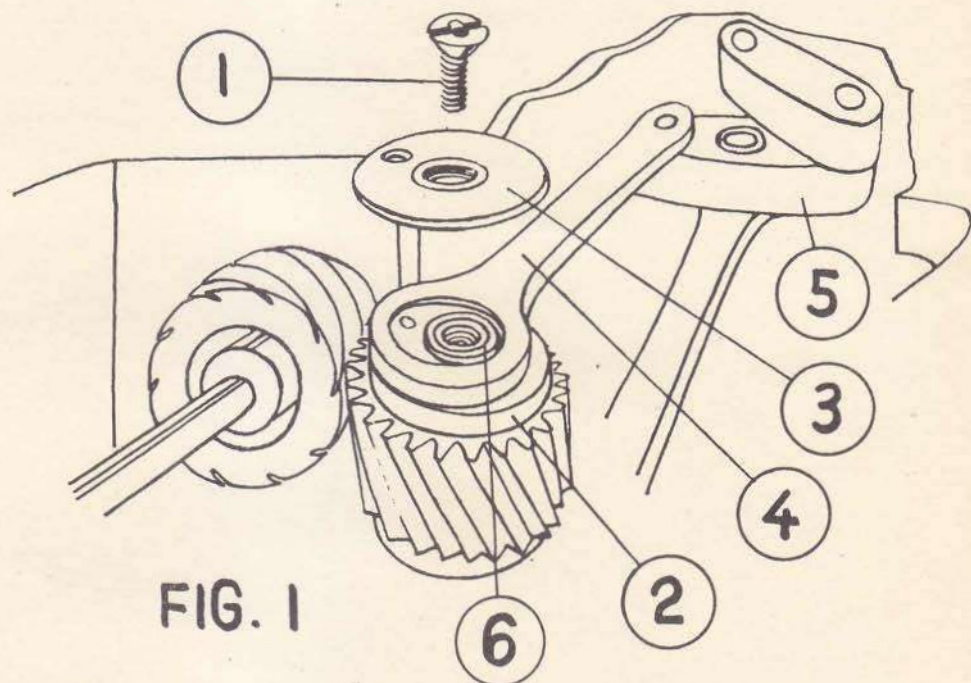

FIG. 1
1. TIMING OF FEED DOG (FIG. 1 - 2)